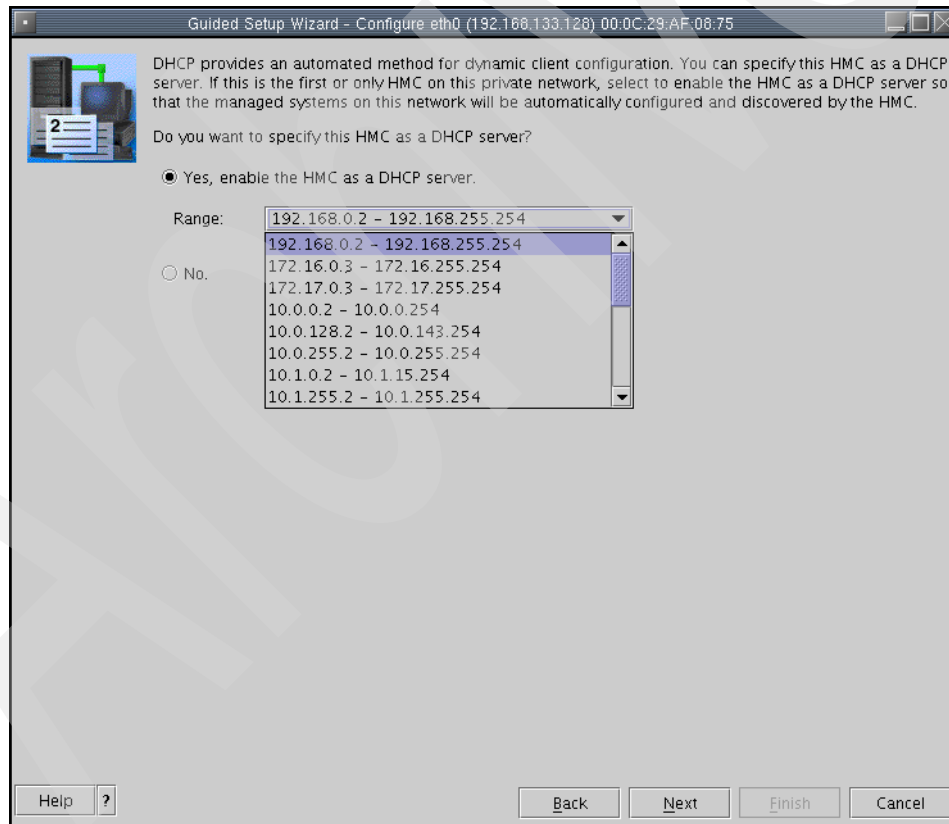

Figure 4-17 Guided Setup wizard - Configure eth0 DHCP
17. Now the Guided Setup Wizard - Configure eth0 panel appears (Figure 4-17). As this is the first HMC on our private network, we have to define the HMC as a DHCP server.